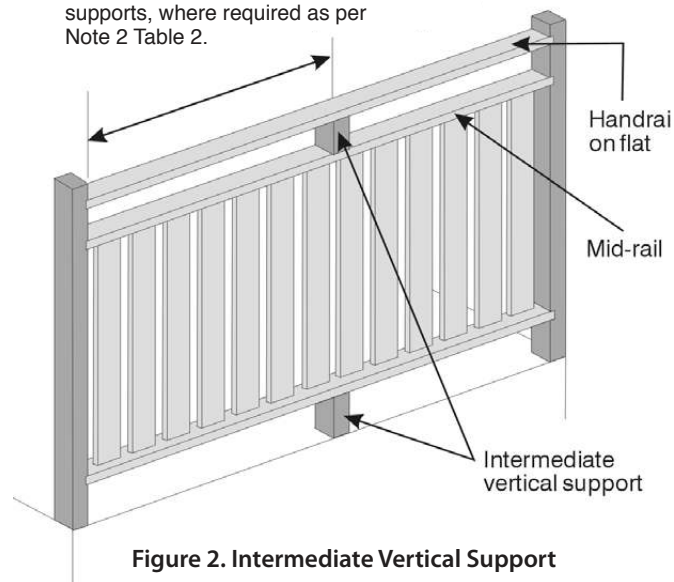

Figure 2. Intermediate Vertical Support
2. Handrails with intermediate vertical supports shall be installed on flat with intermediate vertical supports spaced not greater than the allowable spans given for the same handrail with no intermediate vertical supports. See Figures 2 and 3.